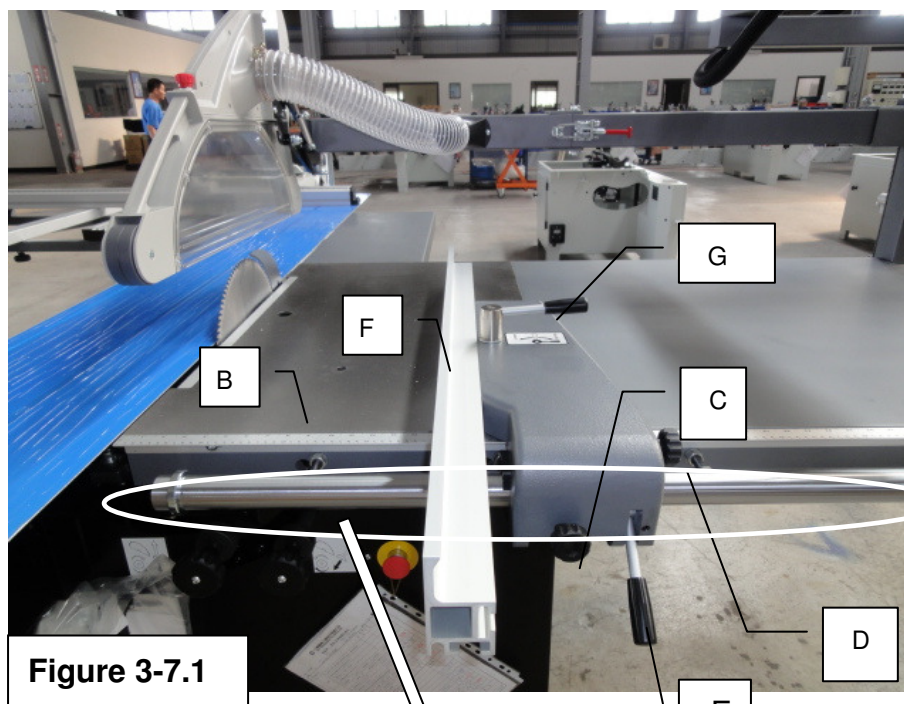
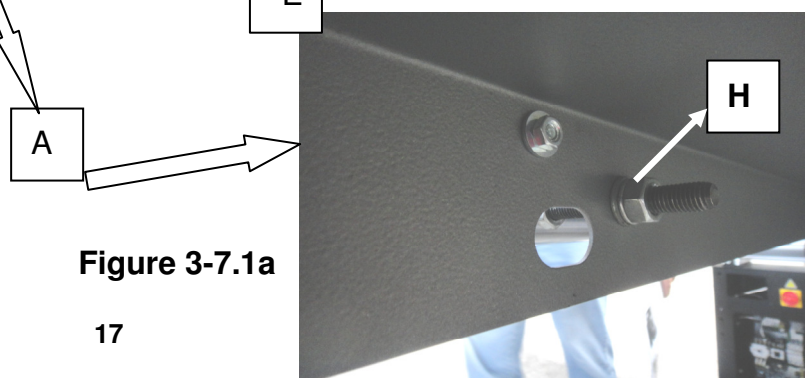

Figure 3-7.1
Figure 3-7.1a
1. Fasten the extension table and keep it aligned with cast iron table. Check the flatness by placing fence plate (F, Figure 3-7.1) on the tables as Fig 3-5.1. The extension table must be **even height** to cast iron table. However, if the extension table is **lower**, the distance must be less than 0.2mm for smooth operation.
1. Insert the screw rods **H** (Fig. 3-7.1a) of the round bar into the position **A** (Fig. 3-7.1) of working table and extension table then put the washers and nut at the back side of the table, then fasten them in (there are 4 points for fixing the round bar in this position).
3. Slide rip fence support **C**(Fig. 3-7.1)into round bar **D**(Fig. 3-7.1)
Note: Move handle **E** (Fig. 3-7.1) up to release rip fence, down to lock the rip fence.
4. Mounting fence plate **F** (Fig. 3-7.1) to clamping assembly in upward position and tighten handle **G**.